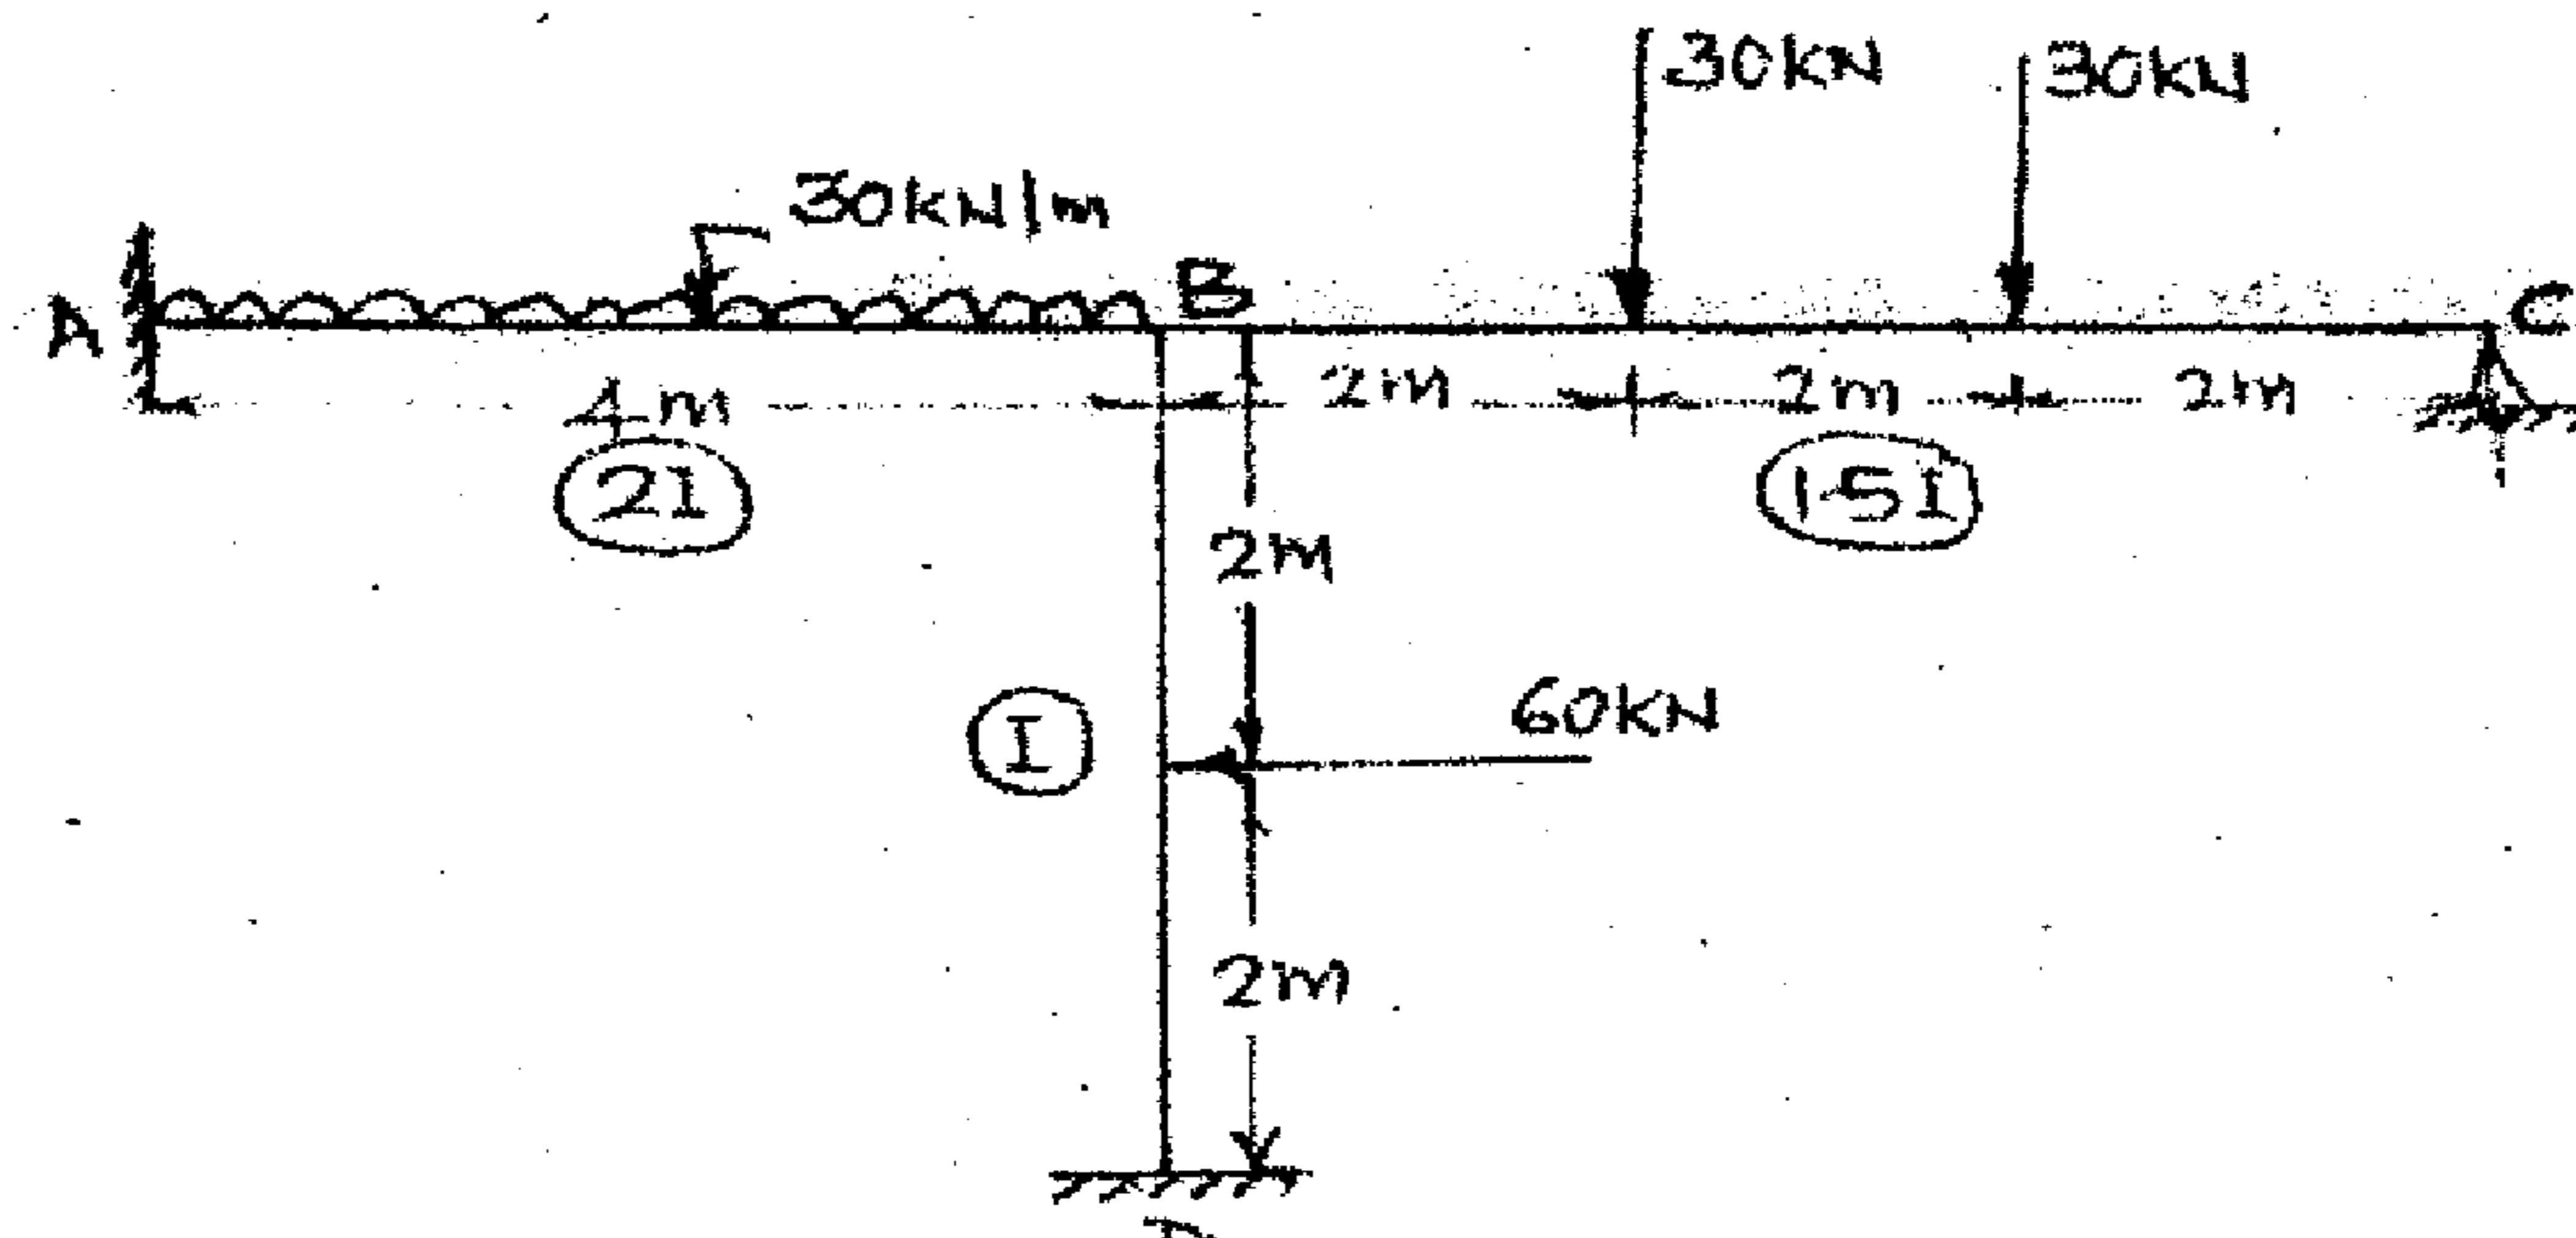

Fig. Q2
- 2 Analyse the frame shown in figure Q2 by slope deflection method. Hence draw B.M.D, S.F.D. Also sketch the elastic curve. (20 Marks)